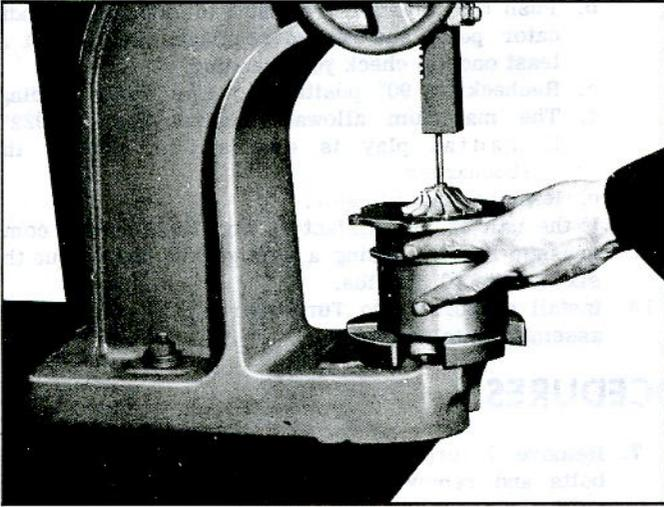

Fig. 41—Pressing Turbine Shaft from Impeller
- Place a 1/4" diameter brass rod on the end of the turbine shaft (fig. 41) and press turbine shaft from impeller wheel.